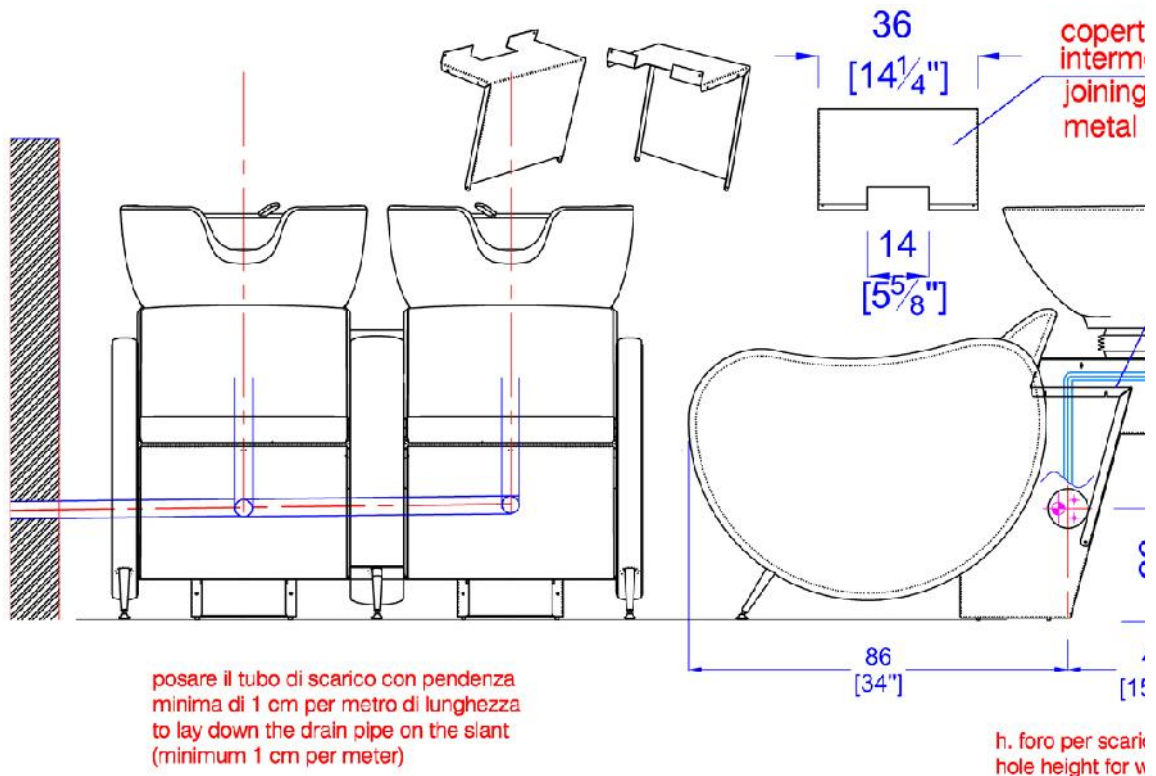

Fig.14
- 3) Once the sink is positioned properly, remove the metal rear cover, placed behind the column, by unscrewing the fixing bolts, Fix the metal column to the floor with the appropriate anchoring blocks, or if the floor is not sufficiently compact, with a chemical anchoring agent (not provided) .The electric feeding cable of the leg-raise comes into a shunt box. The AIR SHIATSU MASSAGE pump has a cable that comes into the shunt box, too. Go into the shunt box with the cable that comes out from the floor (fig.14 – 15 – 16 – 17 - 18)